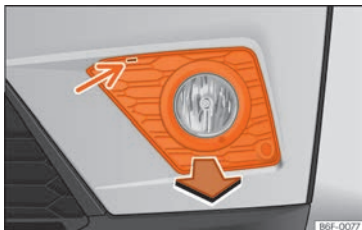

Fig. 55 Front fog light: remove the grille
- Lever the groove with a screwdriver »» Fig. 55 (arrow). Next, unclip the clips located on the edge of the grille, pulling on it.